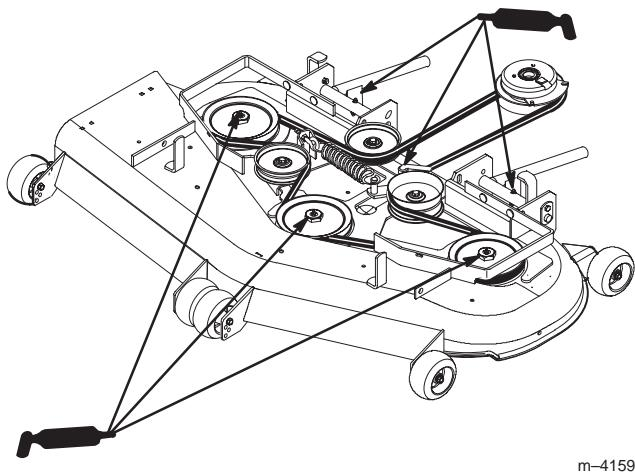

Figure 33
2. Grease the fittings on the three spindle bearings (Fig. 33).
3. Grease the idler pulley pivot (Fig. 33).
4. Grease the fittings on the push arms (Fig. 33).